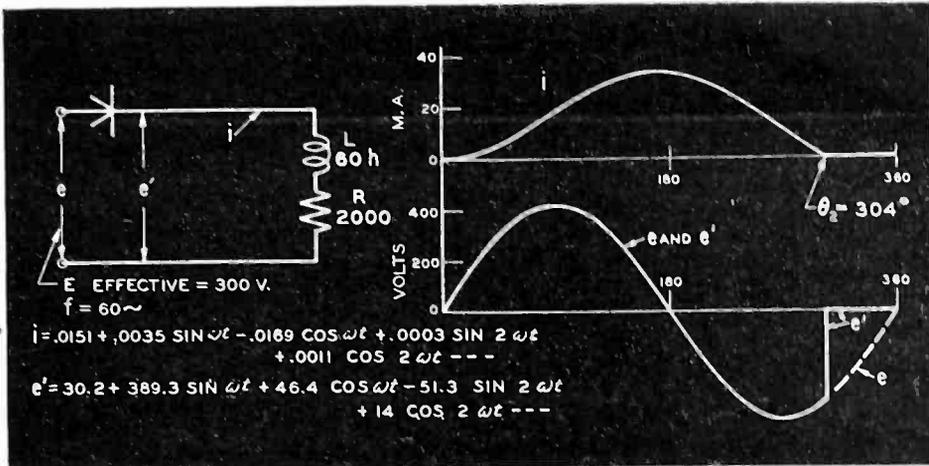
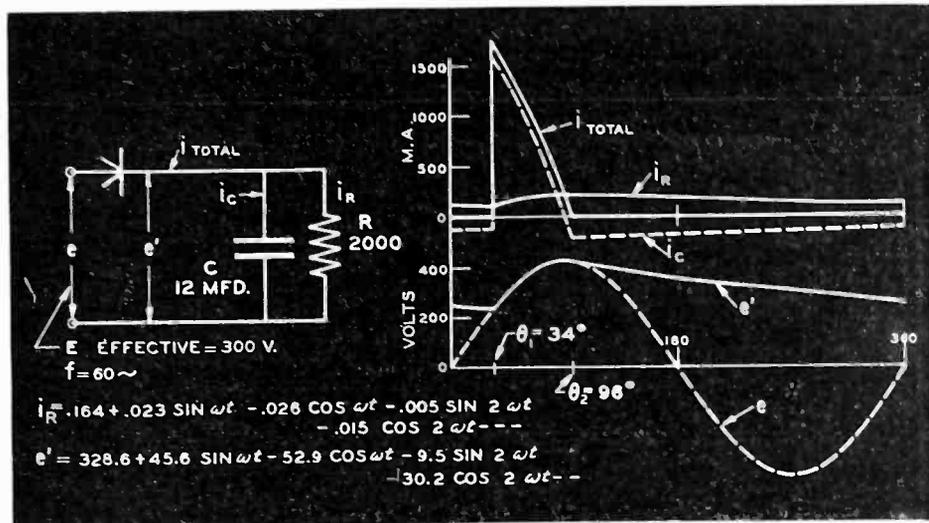
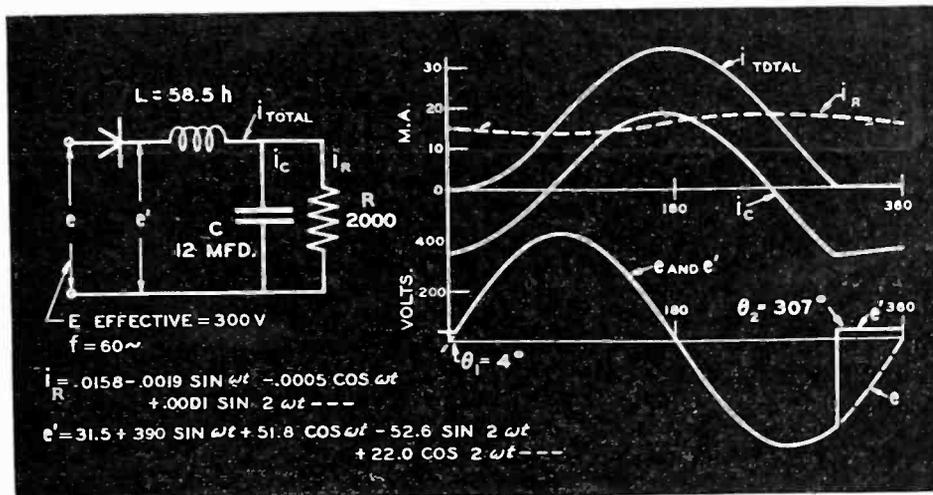
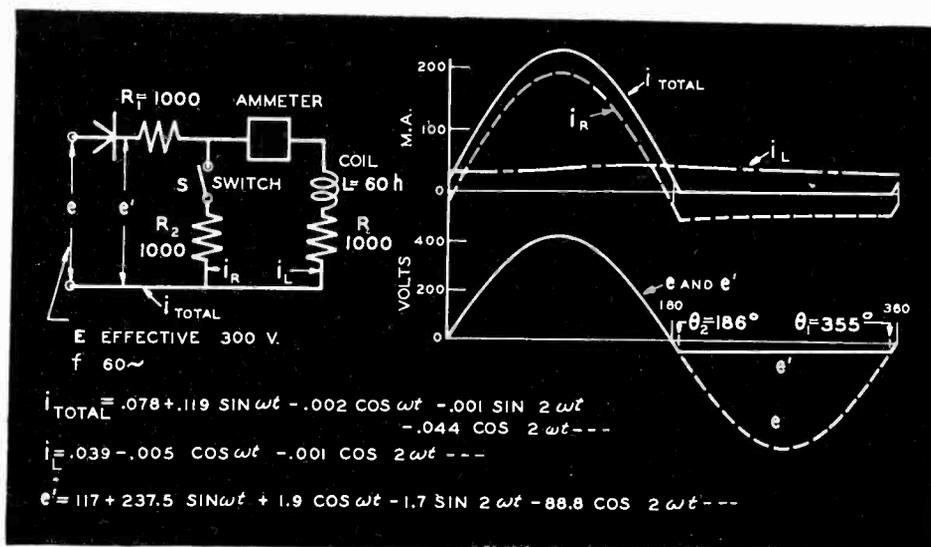

Fig. 2—The effect of inductance in the load circuit is to increase the period of conduction
Fig. 3—When a capacity is in parallel with a resistance, the conduction period is decreased, but there is a continuous flow of current through the resistance
Fig. 4—A simple filter circuit causes the conduction period to continue to beyond the 300 degree point
Fig. 5—Resistance, R_2 , provides a discharge path for the inductance, confining the conduction period to the range between zero and 186 degrees
Figure 2 shows the current in a circuit consisting of resistance and inductance in series. It will be seen that conduction continues beyond the 180° point due to the induced emf of the inductance. For the constants used in this case the "switch" opens at about 304°, so e' follows the sinusoidal form until that point is reached, and is zero for the remainder of the cycle. The average value of the e' curve (which is the
Figure 3 shows the effect of placing a condenser in parallel with a
Figure 4 shows a simple form of filter circuit. Here, as in Fig. 2, the inductance causes conduction to continue far beyond the 180° point. After θ_2 there is an exponential section, for the same reason as in Fig. 3. The smoothing effect of the circuit on the load (i_R) is shown by both the equation and the curve; the condenser takes the major part of the alternating current through L . The voltage e' has a small d-c component, and a very large fundamental frequency term (85 per cent greater than in Fig. 1).
Figure 5 shows a circuit which is essentially the same as one reported by a contributor to *Electronics*³ with values modified. The applied voltage has been multiplied by 20 and all impedances by 100, to make the case comparable with the others presented here. The proportions remain as in the reported case, but the current should be one-fifth as great. No attempt is made to correct for rectifier imperfections as no data were given regarding the rectifier characteristics. The constants of the circuit, with S open, are the same as in Fig. 2, so the effect of closing the switch may be found by comparison of Fig. 2 and Fig. 5. The circuit as a whole gives a more nearly resistive effect with S closed and conduction lasts only to 186° . After 186° , e' has a negative exponential section, due to the decreasing current through the coil and R_2 . In this case e' has an average value nearly four times as great as in Fig. 2, and the total circuit resistance is lower, so that the total current (average value) is about five times as great. The average coil current is half of the total or about 2.5 times as great as in Fig. 2. It is also much smoother in form. The observed increase of coil current upon closing S seems unreasonable if R_2 is consid-
ered only as a shunt which diverts current from the coil. The influence of R_2 on wave forms is of greater importance in this circuit, as becomes evident upon a study of the change in conducting period of the rectifier. Physically, R_2 might be visualized as providing a discharge path for the inductance, thus enabling the rectifier to shut off near the 180° point, and so not subject L to the negative supply line voltage during the half cycle from 180° to 360°, as in Fig. 2.
2. The effect of circuit changes, as in Fig. 5, can be understood only by a study of the wave-form changes.